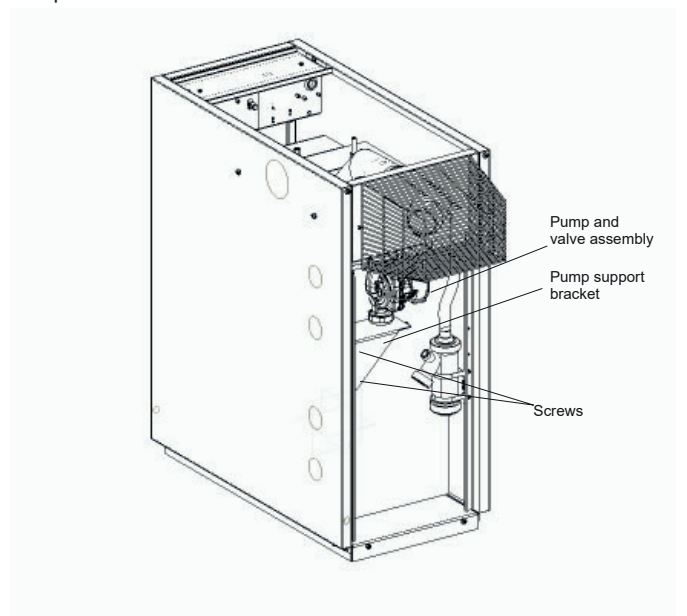

Figure 7-7: Vortex Module 15/21 with Sealed System Kit pump fitted (Wilco Yonos Para RKC pump shown)
13. Fit the pump support bracket, with the screws provided, using the two holes in the left hand side panel flange (viewed from rear of boiler as shown in Figure 7-7).
14. Fit the pump/pump valve assembly to the end of the pressure relief valve air vent manifold pipe. Ensure that the pump shaft is horizontal and the pump motor is facing towards the right side of the boiler (viewed from the rear as shown in Figure 7-7). The flow arrow on the body of the pump must face in the required direction of flow – away from the boiler flow connection – downwards in this case.